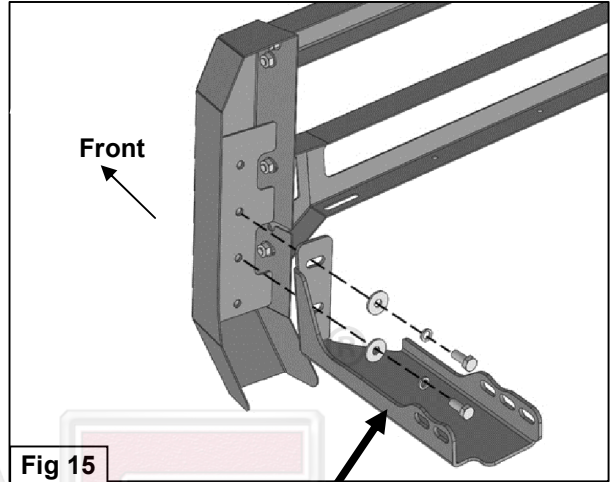

Fig 15
12. With assistance, hold up the assembled Bull Bar to the Mounting Brackets. Align the (2) holes located in the middle of the Uprights with the (2) holes in the Mounting Brackets. Attach the assembled Bull Bar to the Brackets with (4) 10mm Hex Bolts, (4) 10mm Lock Washers and (4) 10mm x 30mm Large Flat Washers, **(Figures 15 & 16)**. Do not tighten hardware at this time.